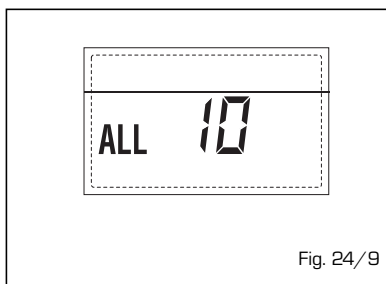

Fig. 24/9
- ANOMALÍA MODULADOR "ALL 11" (fig. 24/10)